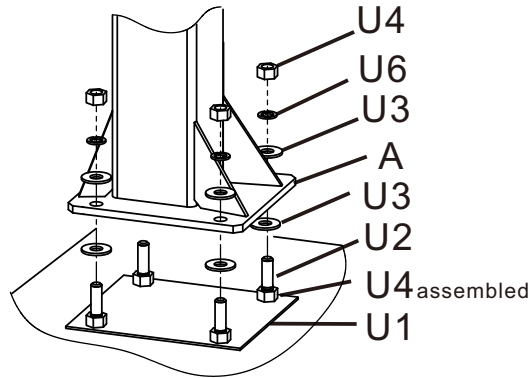

Figure 3
Slide one Thick washer M16 (U3) over each J-bolt (U2). Lift the Pole (A) onto Anchor system, secure with one thick washer (U3), one Lock washer M16 (U6) and one Hex nut (U4) for each J-bolt. See **Figure 3**.